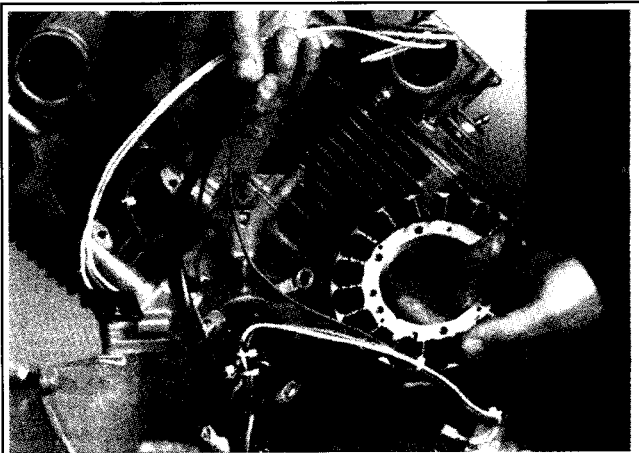

Figure 11-16. Route Wiring to Stator.
1. Route wiring so that leads are in 10 o'clock position. See Figure 11-16.